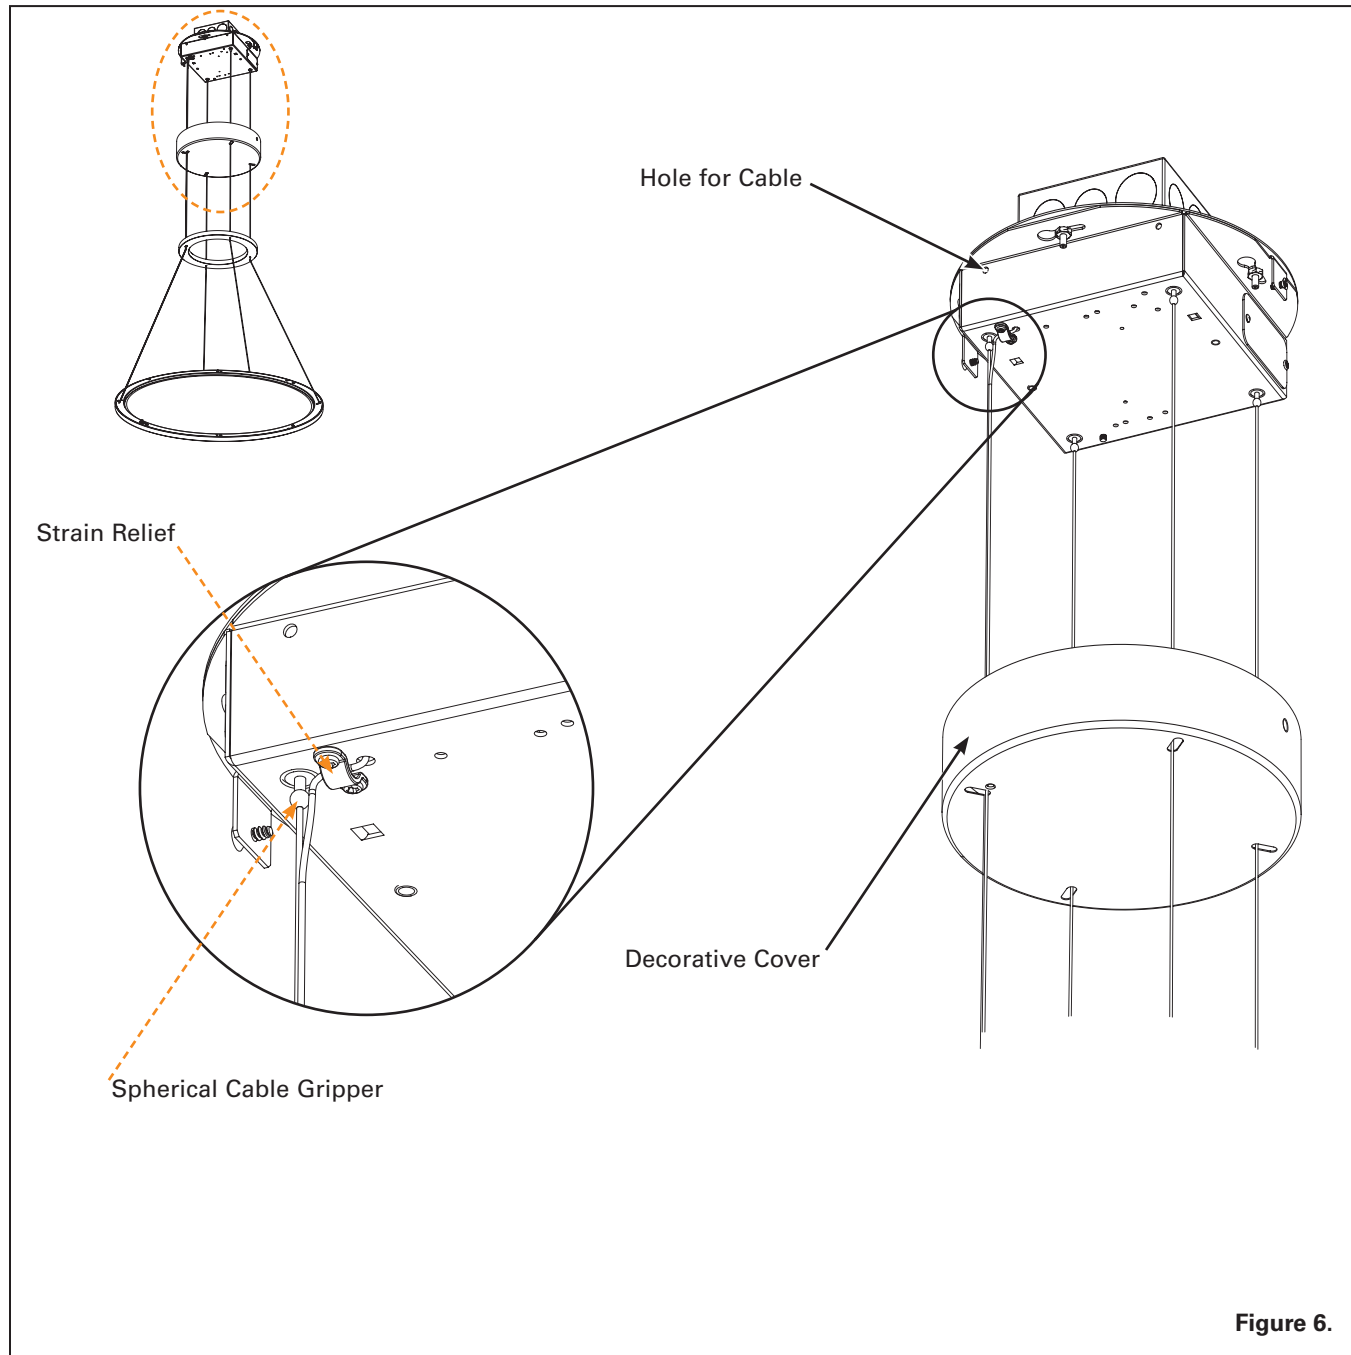

Figure 6.
Step 5. Insert the Air Craft Cables into the spherical shape Cable Grippers in the Driver Compartment. Raise Light Guide Panel by continuing to feed the Air Craft Cables through the Grippers, pulling the excess cable out of the hole for air craft cable as the light fixture is raised. To lower the cables, gently push up on the neck of the Gripper. Figure 6
Step 6. Feed the Low Voltage cable through the Strain Relief into the holes of driver compartment. Make the wire connections with driver using the wire nuts provided. Figure 6